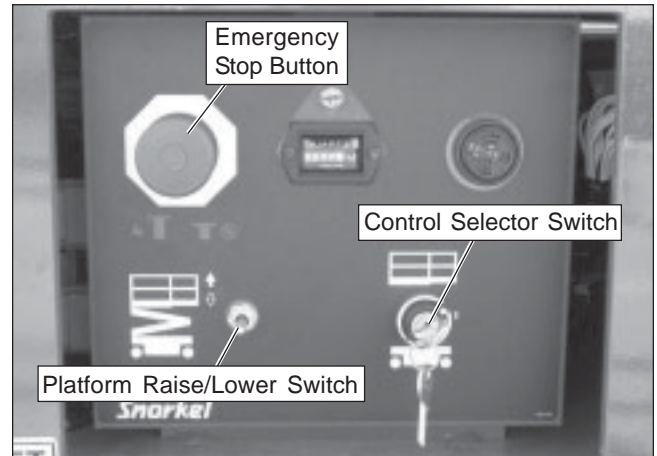

Figure 9.1 – Lower Controls
1. Pull the emergency stop button outward (refer to Figure 9.1).